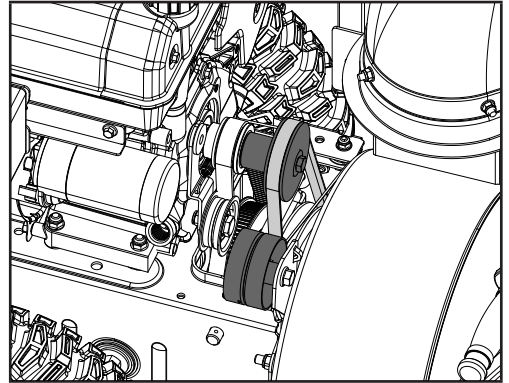

Figure 30
9. With the belt properly placed on both the front pulley and the auger drive pulley, pull the auger idler pulley back away from the belt and slip the belt inside the pulley. You can pull the recoil to rotate the pulley to help get it seated (Fig. 30).